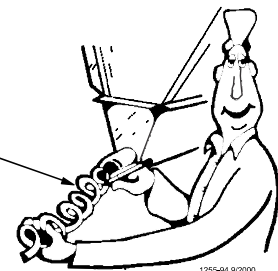

Figure 58. Measure the Auger from relaxed position
10. Pull the auger at the boot end until it begins stretching. Then let it relax. In the *relaxed* position, mark the auger at the end of the boot. See **Figure 58**.